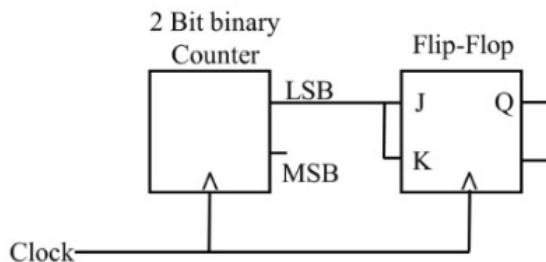

Fig. 5.11: Circuit
11. For the circuit shown in Fig. 5.11, the clock frequency is f_0 and the duty cycle is 25%. For the signal at the Q output of the Flip-Flop, (GATE EC 2022)